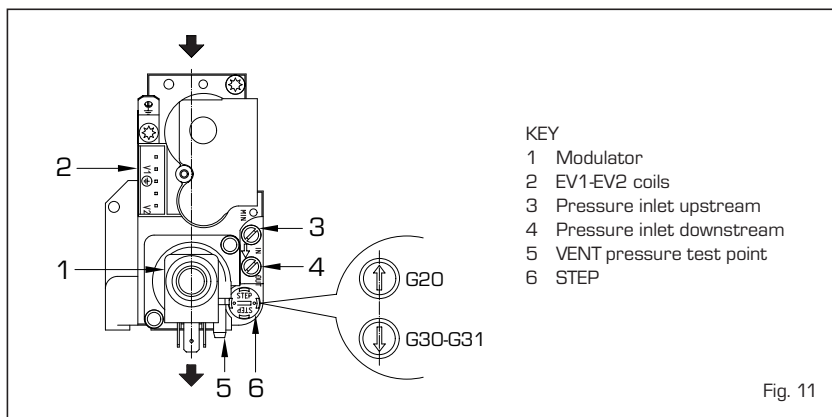

Fig. 11
- Remove the cap (3) from the modulator.
- Check the gas inlet pressure at the relevant pressure test point (3 fig. 11) with the boiler running at the maximum output.
- Regulate the maximum pressure by turning the nut (1) searching for the maximum pressure **Table 3**.